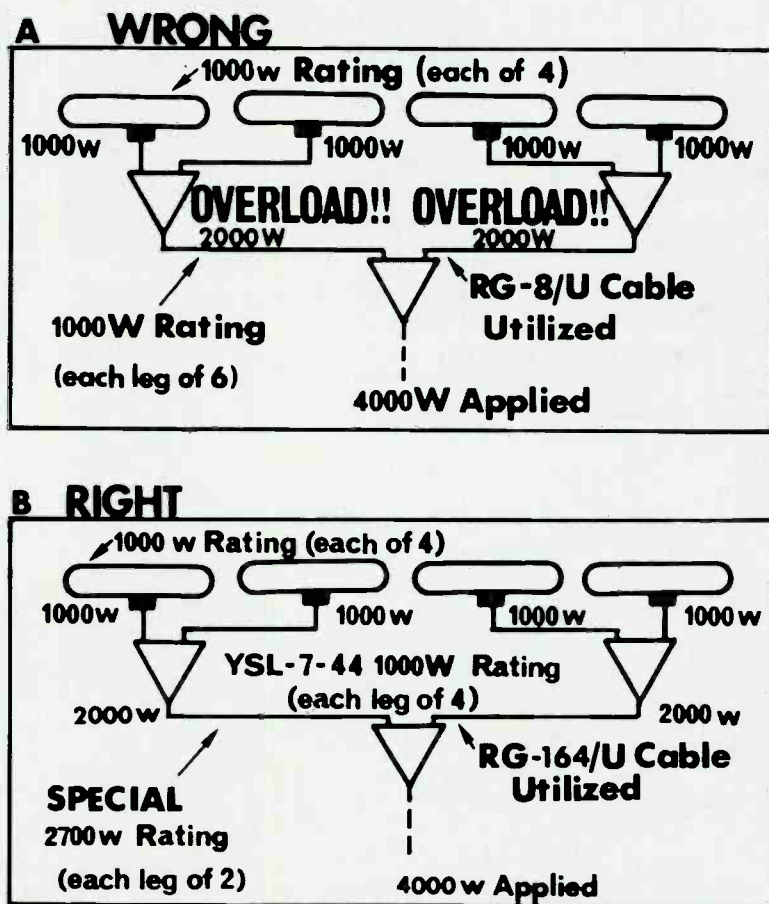

Fig. 4 Stacking lines of higher power rating used in the first leg permits loading the array up to each individual antenna's rated capacity.
**Fig. 4** A simple, inexpensive circuit that will permit feeding two circuits into one circuit without crossfeed of the input circuits. There is a 6 dB loss across either input to output. If three circuits are required to be fed to a single input, a second pad may be used, with the output of the first pad as its #1 input. There will be an additional 6 dB loss, and the output to #3 input must also be reduced 6 dB to balance the circuit.
Conversely, power is divided in half on each leg of a pair. Thus total power applied to the array may equal the number of antennas within the array times the single antenna power rating. However, in no case may the power rating of a single antenna or stacking line be exceeded. See Figure 4.
With reference to Figure 4, it can be seen that the total power rating of the antennas (A) exceeds that of the stacking harness; therefore, either the applied power must be less than maximum for the antennas or optional high-power rating stacking lines used (B).
Figure 4 shows that in this example, stacking lines of higher-power rating used in the first leg would permit loading the array up to each individual antenna's rated capacity.